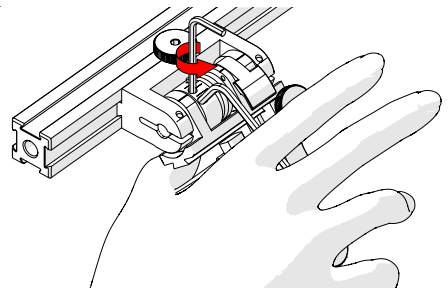

Fig. 57 - Press 3 mm hex wrench down
5. Lightly press the long arm of the 3 mm hex wrench down. Using the 2 mm hex wrench, loosen the force adjustment screw but do not remove it (Fig. 57).